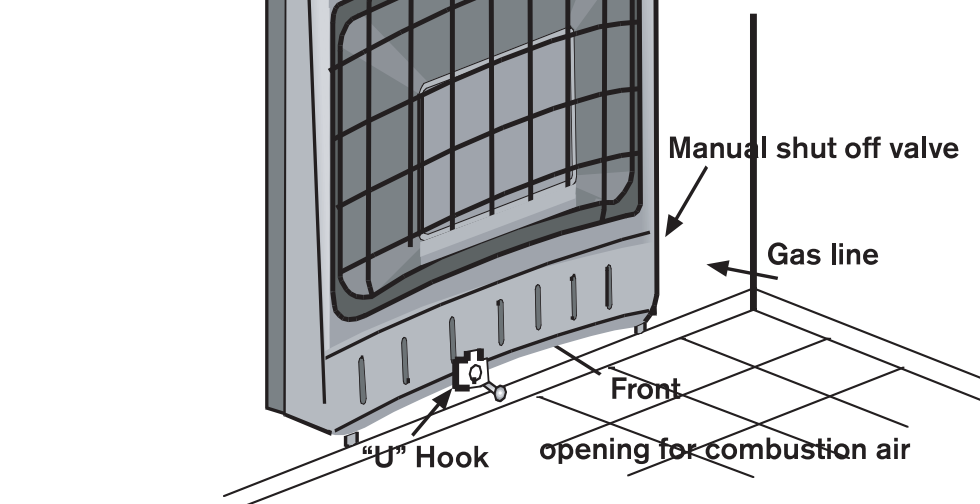

Figure 2-2
3. Drill another 5/16" hole on the wall stud for the "U" hook as shown in Figure 2-2.